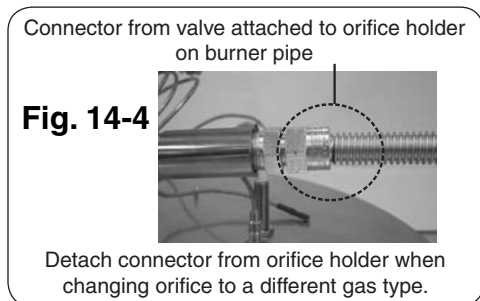

**Fig. 14-2**
4. Detach the thermocouple (taking care not to kink it) from the safety valve (see Fig. 14-2 for location).
7. The regulator is situated after the valve (see Fig. 14-2), behind the control panel. To convert the regulator to the required gas type: